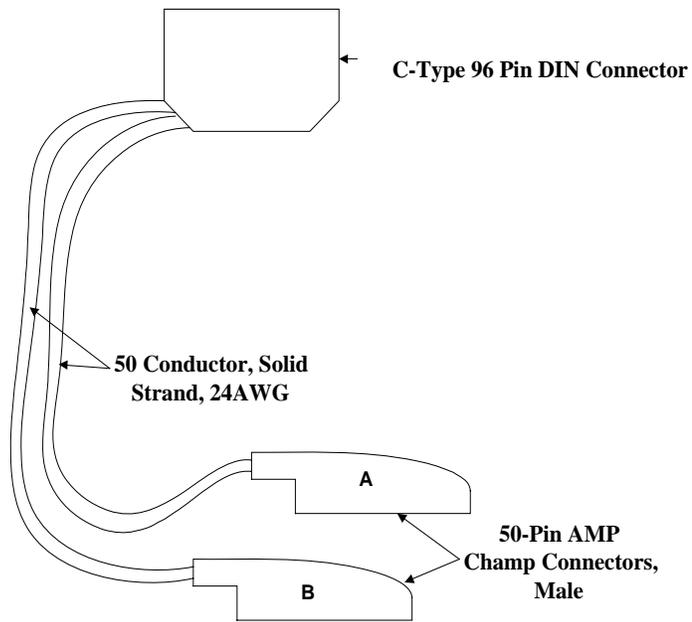
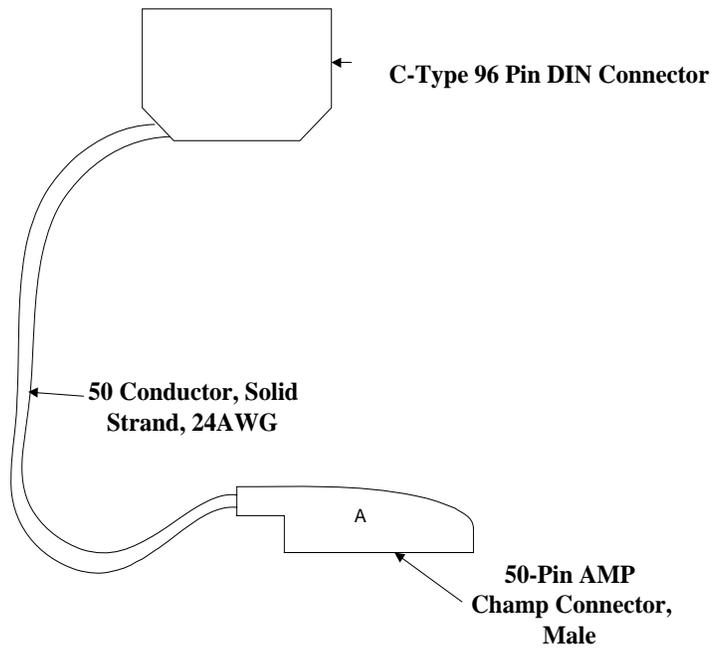

Figure 11-5. Cable for Normal or Tandem Modes
Figure 11-6. Cable for Transmission Only (TO) Mode
Individual E&M/TO voice cards require the purchase of the Normal mode, Tandem mode, or Transmission Only (TO) mode cables listed below in **Table 11-4**. The type of cable used with the signaling line connector determines whether all twelve channels of that card operate only in that mode. Physically, the Normal and Tandem cables have one 96-pin DIN connector that plugs into the E&M card. The 96-pin DIN connector has two 50 conductor, 24 AWG cables leading to two 50-pin Telco connectors. The Telco connectors use standard RJ-2HX pinouts for 4-wire E&M, providing six channels per connector (twelve channels per card). The Transmission Only (TO) cable has the same 96-pin DIN connector but only one 50 conductor cable and one Telco connector. The Transmission Only (TO) cable uses standard RJ-2DX pinouts, allowing 12 channels per cable. **Figure 11-5** and **Figure 11-6** show the 4-wire E&M/TO cables.